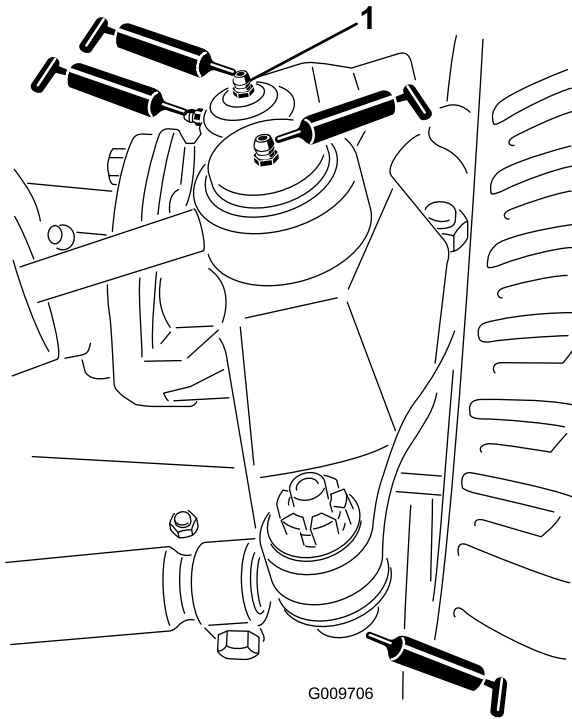

Figure 66
- Steering cylinder ball joints (2) (Figure 66)
- Tie rod ball joints (2) (Figure 66)
- King pin bushings (2) (Figure 66). **The top fitting on the king pin should only be lubricated annually (2 pumps).**